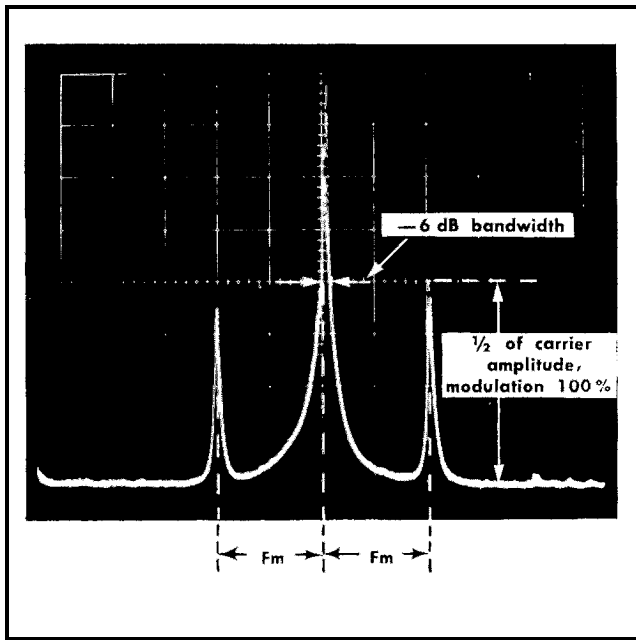

Fig. 2-18. Spectrum of an amplitude modulated signal. Sideband amplitude is $\frac{1}{2}$ the percentage of modulation. This spectrum shows 100% modulation.
When a single frequency (CW) signal is amplitude-modulated by a single frequency, two additional frequencies will be generated; the carrier plus the two side bands. See Fig. 2-18. The amplitude of either sideband with respect to the carrier voltage is $\frac{1}{2}$ the percentage of modulation. The frequency difference between the carrier and either sideband equals the modulating frequency.